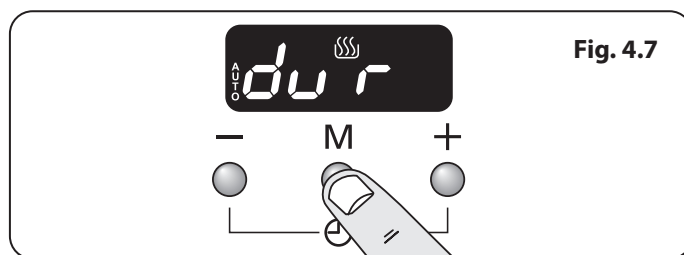

Fig. 4.7
- Press the mode [M] button until the display flashes 'dur' (**Fig. 4.7**). Then set the 'cook period' using the [+] or [-] buttons.